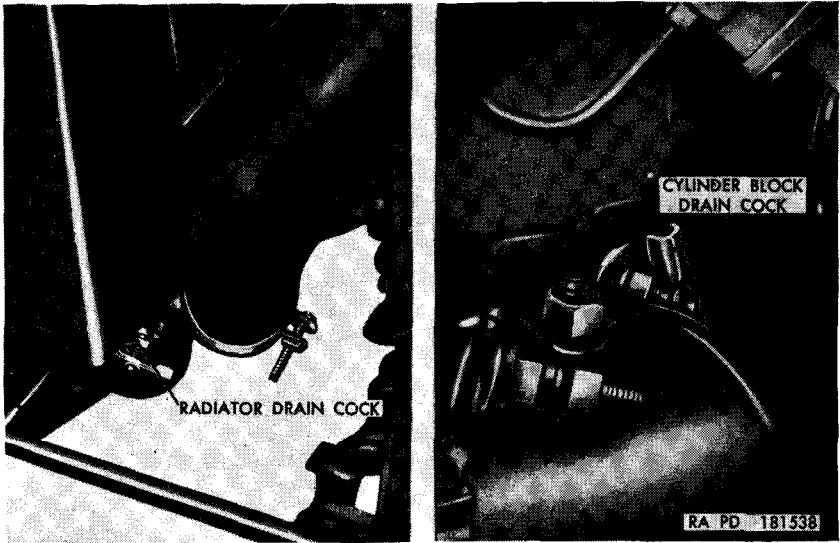

Figure 40. Cooling system drain cocks.
- (1) *Draining.* To drain the cooling system, open the hood and remove the radiator cap slowly to relieve any pressure within the system. If the coolant is to be saved, place a suitable container under the drain cocks (fig. 40) of the radiator and cylinder block. One drain cock is located on the right side of the cylinder block just forward of the starter, and the other is located at the bottom of the radiator on the left side of the water outlet hose fitting. Open both drain cocks, allow cooling system to drain completely, and close drain cocks.
- (2) *Filling.* Be sure that both drain cocks (fig. 40) are closed. Fill the cooling system with water, or antifreeze solution, of sufficient strength to protect the system against the lowest anticipated temperature, to a level approximately 1 inch below the bottom of the filler neck. Run the engine to circulate the coolant and expel air from the system, and recheck the coolant level.